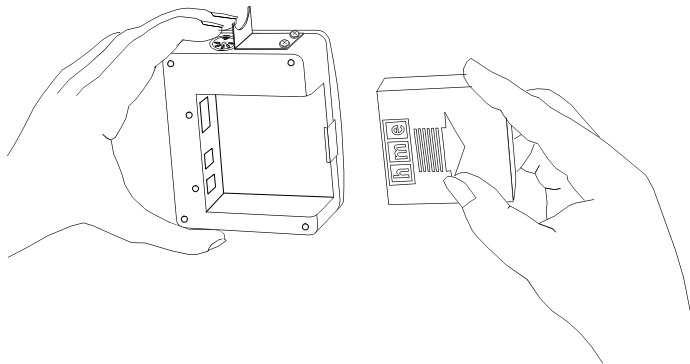

Figure 16. Installing the battery
- ! Install a fully charged battery in the battery compartment with the arrow on the battery pointing out as shown in Figure 16. Slide it into the tracks on both sides of the compartment until its catch clicks securely in place.